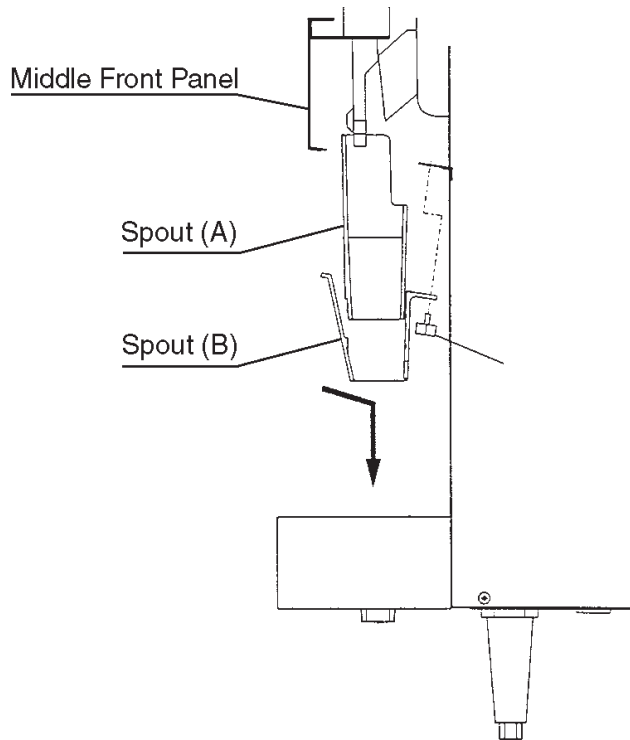
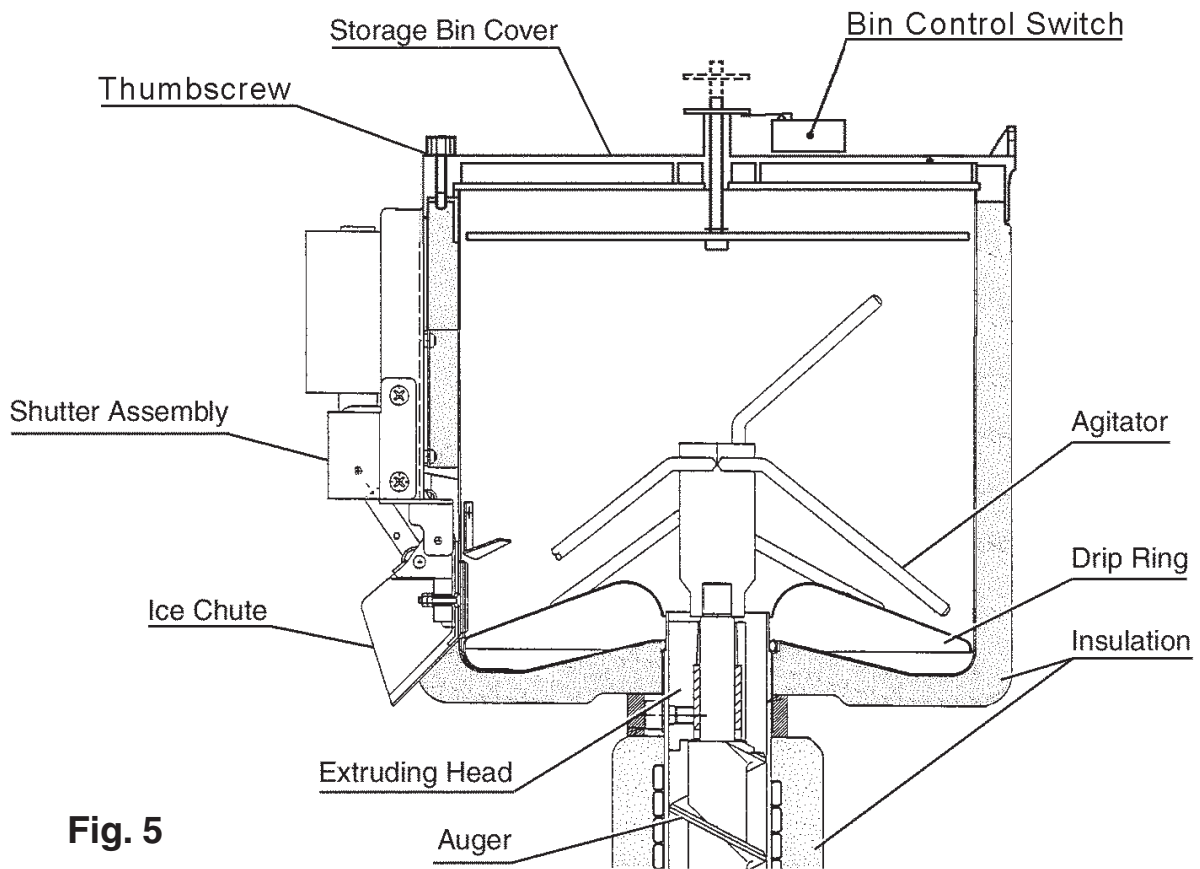

Fig. 4
Fig. 5
- 6) Remove spouts (A) and (B) by removing the thumbscrew, sliding the spouts backward and then pulling them down. (See Fig. 4.)
- 7) Pull out spout (A) from spout (B).
- 8) Remove the top panel and storage bin cover. (See Fig. 5.)